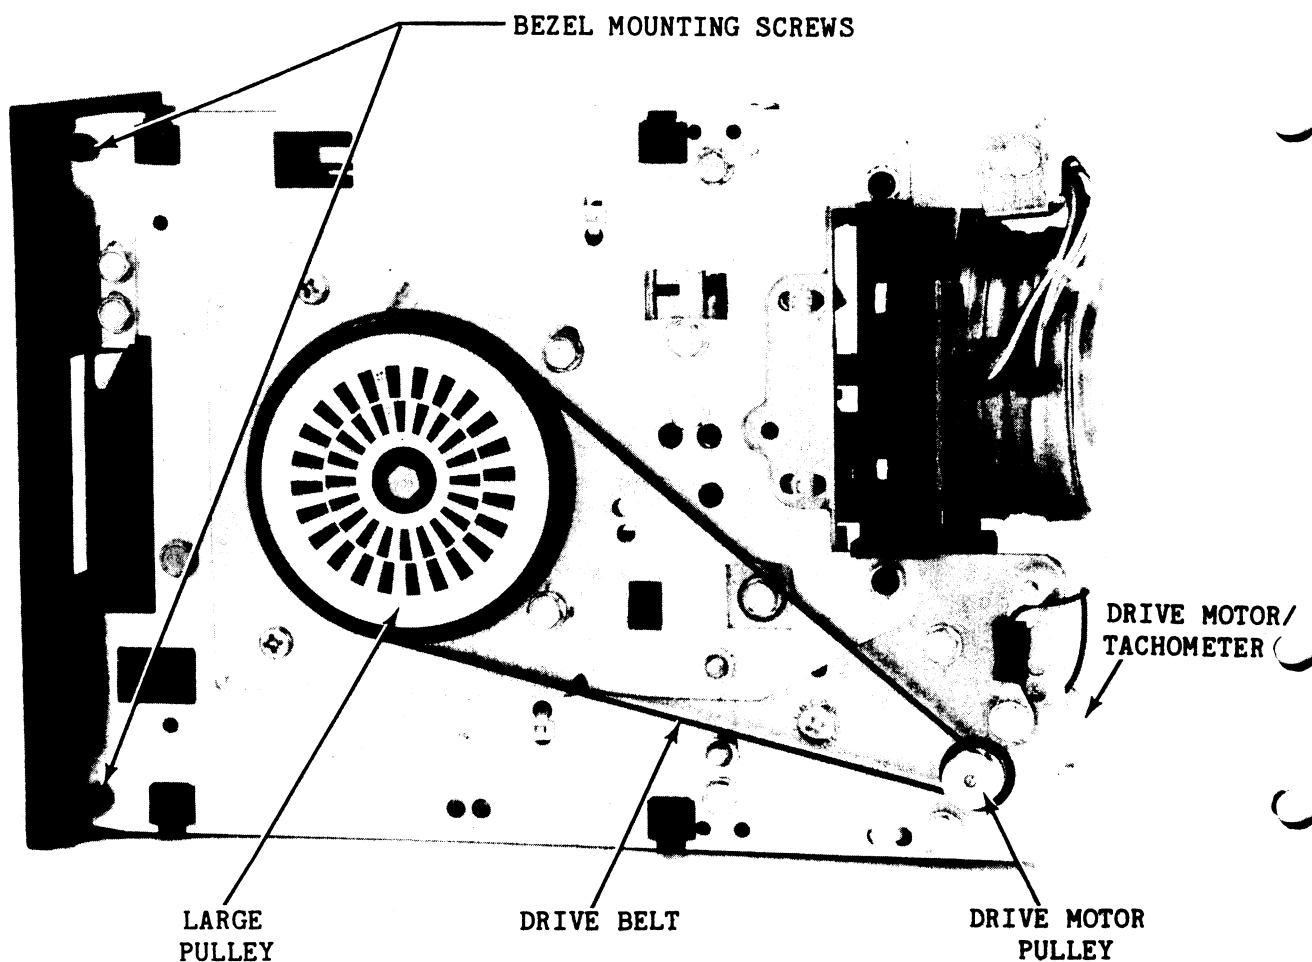

Figure 6-3. Drive Motor and Belt Details
- a. Slip the drive belt off the large pulley (with the strobe disk) and remove it from the drive motor pulley (see Figure 6-3). Retain the belt if it is acceptable for reuse. Note which surface of the belt is in contact with the pulleys. If the drive belt is to be replaced and the existing drive motor is acceptable, proceed directly to step i.